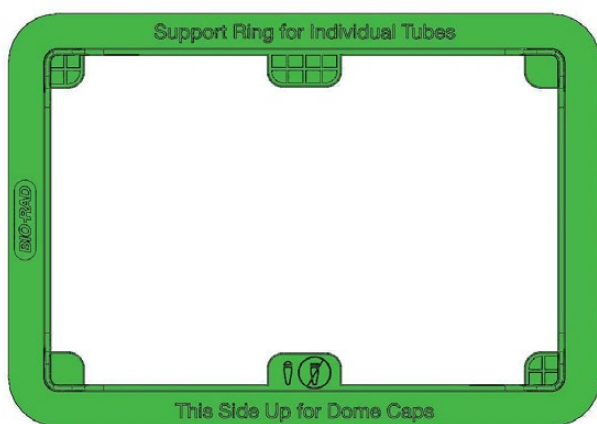

Fig. 4. Tube support ring for running individual tubes.
**Note:** When running individual tubes, place the support ring in the block to prevent deformation of the tubes by the heated lid. The ring is reversible for domed cap tubes or flat cap tubes (Figure 4). Alternatively, load 8 empty tubes in the corners and sides of the block.